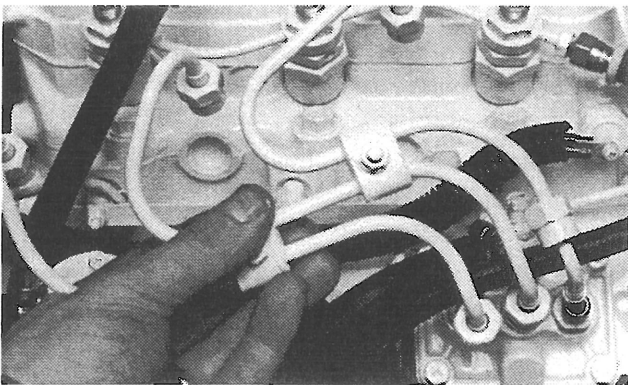

Figure 12. Remove Delivery Lines
- c. Remove delivery lines by disconnecting from injectors and injection pump (Figure 12.) Remove all lines as an assembly, do not remove the spacers. Cover the ends of the lines, the injector inlets and injection pump outlets to keep dirt out.